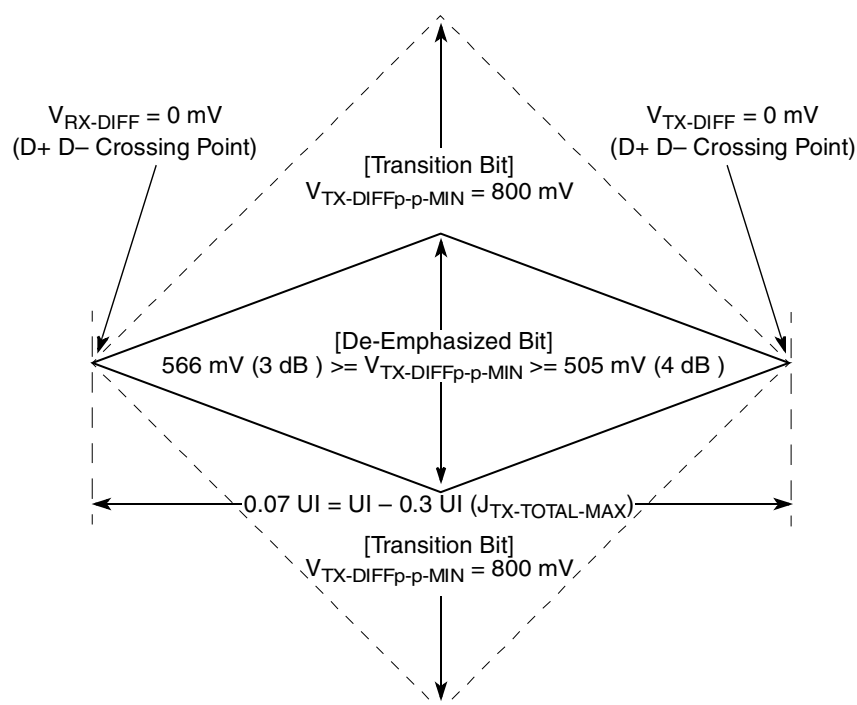
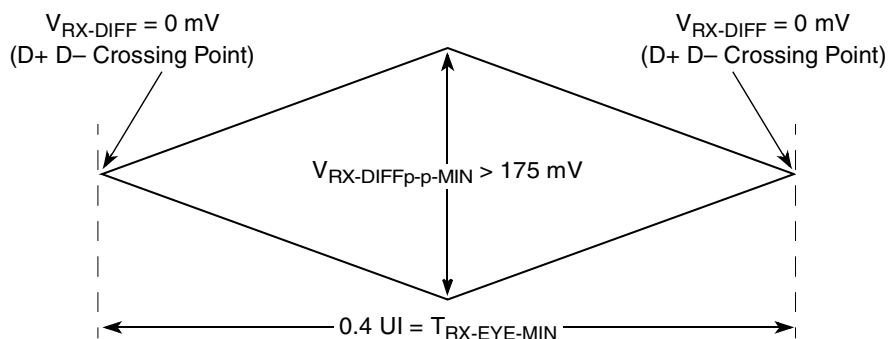
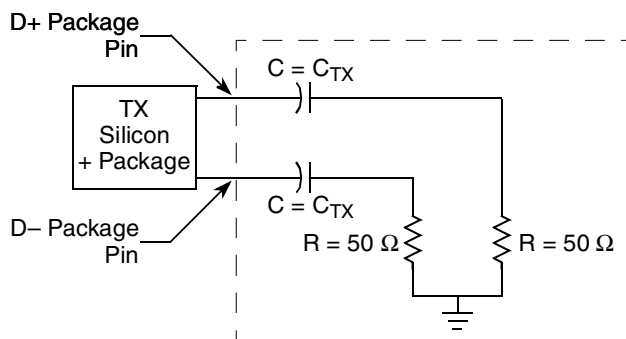

Figure 55. Minimum Transmitter Timing and Voltage Output Compliance Specifications
Figure 56. Minimum Receiver Eye Timing and Voltage Compliance Specification
Figure 57. Compliance Test/Measurement Load
- Specified at the measurement point into a timing and voltage compliance test load as shown in Figure 57 and measured over any 250 consecutive TX UIs. (Also refer to the transmitter compliance eye diagram shown in Figure 55.)
- The Transmitter input impedance shall result in a differential return loss greater than or equal to 12 dB and a common mode return loss greater than or equal to 6 dB over a frequency range of 50 MHz to 1.25 GHz. This input impedance requirement applies to all valid input levels. The reference impedance for return loss measurements is 50 ohms to ground for both the D+ and D- line (that is, as measured by a Vector Network Analyzer with 50 ohm probes—see Figure 57). Note that the series capacitors C_{TX} is optional for the return loss measurement.
- Measured between 20-80% at transmitter package pins into a test load as shown in Figure 57 for both V_{TX-D+} and V_{TX-D-} .
The TX eye diagram in Figure 55 is specified using the passive compliance/test measurement load (see Figure 57) in place of any real PCI Express interconnect + RX component.
- Specified at the measurement point and measured over any 250 consecutive UIs. The test load in Figure 57 should be used as the RX device when taking measurements (also refer to the Receiver compliance eye diagram shown in Figure 56). If the clocks to the RX and TX are not derived from the same reference clock, the TX UI recovered from 3500 consecutive UI must be used as a reference for the eye diagram.
- The Receiver input impedance shall result in a differential return loss greater than or equal to 15 dB with the D+ line biased to 300 mV and the D- line biased to -300 mV and a common mode return loss greater than or equal to 6 dB (no bias required) over a frequency range of 50 MHz to 1.25 GHz. This input impedance requirement applies to all valid input levels. The reference impedance for return loss measurements for is 50 ohms to ground for both the D+ and D- line (that is, as measured by a Vector Network Analyzer with 50 ohm probes - see Figure 57). Note: that the series capacitors CTX is optional for the return loss measurement.
The RX eye diagram in Figure 56 is specified using the passive compliance/test measurement load (see Figure 57) in place of any real PCI Express RX component.
Note: In general, the minimum Receiver eye diagram measured with the compliance/test measurement load (see Figure 57) is larger than the minimum Receiver eye diagram measured over a range of systems at the input Receiver of any real PCI Express component. The degraded eye diagram at the input Receiver is due to traces internal to the package as well as silicon parasitic characteristics which cause the real PCI Express component to vary in impedance from the compliance/test measurement load. The input Receiver eye diagram is implementation specific and is not specified. RX component designer should provide additional margin to adequately compensate for the degraded minimum Receiver eye diagram (shown in Figure 56) expected at the input Receiver based on some adequate combination of system simulations and the Return Loss measured looking into the RX package and silicon. The RX eye diagram must be aligned in time using the jitter median to locate the center of the eye diagram.
The reference impedance for return loss measurements is 50. to ground for both the D+ and D- line (that is, as measured by a Vector Network Analyzer with 50. probes—see Figure 57). Note that the series capacitors, CTX, are optional for the return loss measurement.
The AC timing and voltage parameters must be verified at the measurement point, as specified within 0.2 inches of the package pins, into a test/measurement load shown in Figure 57.